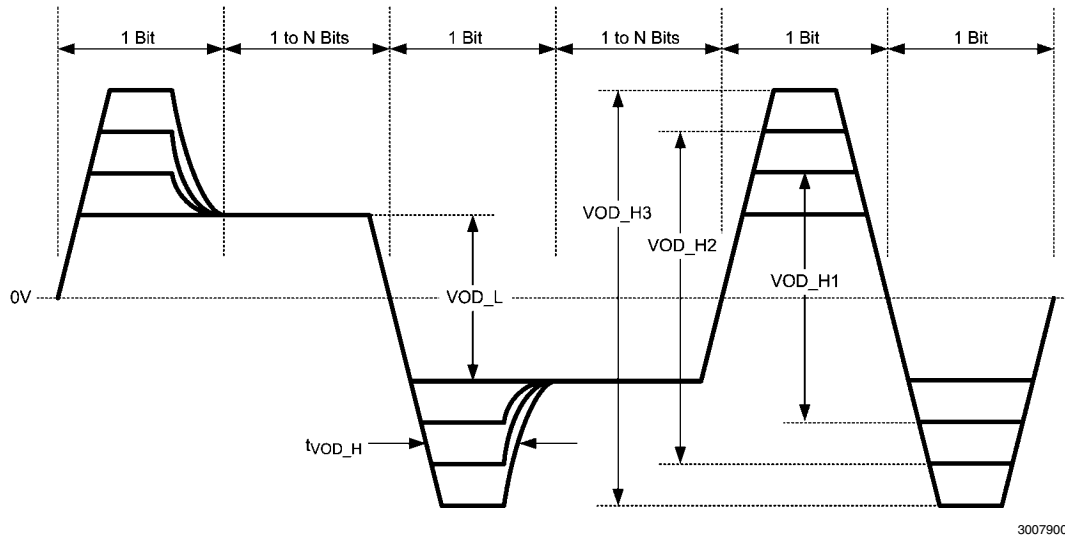

FIGURE 1. Pre-emphasis Circuit is Most Useful When the Boost Pulse Duration (t_{VOD_H}) is about 75% of the UI
For system designers, an important parameter of a pre-emphasis circuit is the boost or gain it provides. The higher the boost, the more attenuation the circuit can compensate for and ultimately transmit over a longer transmission medium. As an example, *Figure 1* illustrates an output signal from a driver with four pre-emphasis boost levels and the signal's time domain characteristics. The signal is a pattern starting with one bit high (H), followed by one to N bits H, followed by one bit low (L), followed by one to N bits L, followed by an H and an L. Note the signal's nominal amplitude of VOD_L and three distinct boost amplitudes (VOD_H1-3). The boost is simply 20 times log of the ratio of the VOD_H and VOD_L expressed in dB. It is also important to note that the duration of the boost pulse (t_{VOD_H}) should optimally be about 75% of the unit interval (t_{UI}); shorter boost pulse duration will provide lower gain. LVDS devices from *Table 1* feature pre-emphasis circuits that provide up to four pre-emphasis levels.